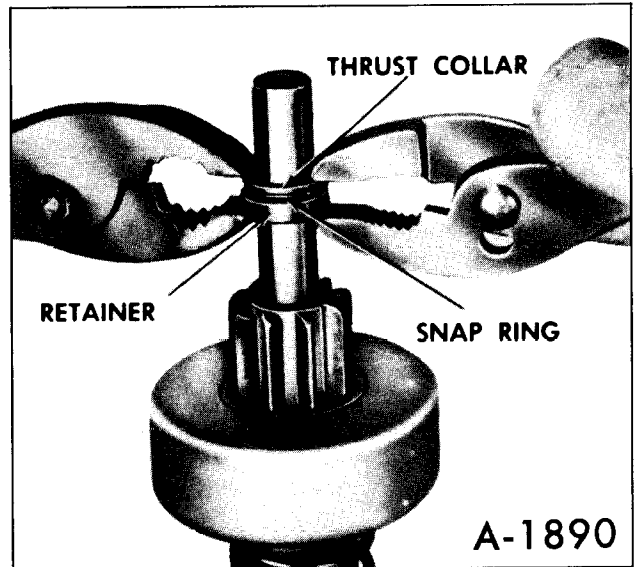

Figure 52-Solenoid Terminals and Sealing
5. Apply sealer, No. 1050026 or equivalent on solenoid flange as shown in (figure 52).
To check, connect a voltage source of approximately 6 volts between the solenoid switch terminal and ground. (figure 52).